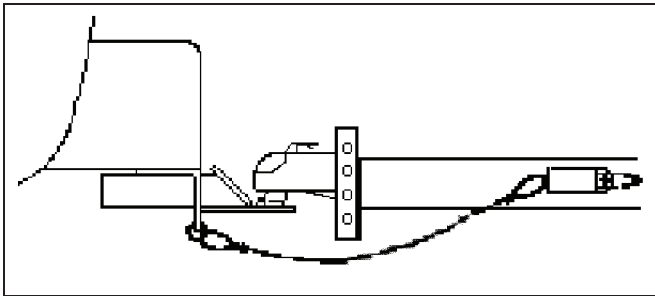

Figure 4-8 - Breakaway Brake Connection
- Connect the pullpin lanyard to the tow vehicle so that the pullpin will be pulled out before all of the slack in the safety chains is taken up. See figure 4-8. Do **not** connect the pullpin cable to a safety chain or to the hitch ball or hitch ball assembly. This would keep the breakaway brake system from operating when it is needed.